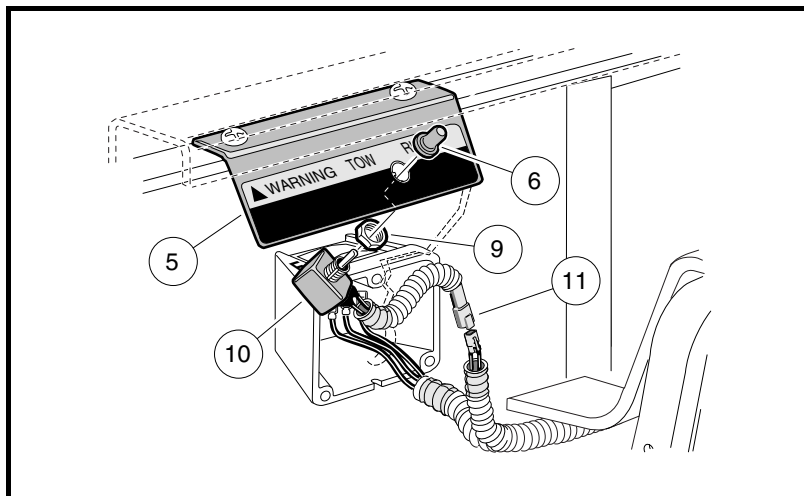

Figure 12-15 Tow/Run Switch
2. Remove Tow/Run switch boot/hex nut (6) (**Figure 12-15, Page 12-19**).
3. Remove nut (9) and Tow/Run switch (10) from bracket (5) (**Figure 12-15, Page 12-19**).
4. Disconnect two-pin connector (11) and remove switch (**Figure 12-15, Page 12-19**).
1. Installation is reverse of removal. Make sure groove on switch is aligned with tang on bracket. If knurled nut is present, tighten nut (9) to 23 in.lb (2.6 N-m). Tighten Tow/Run switch boot/hex nut (6) to 16 in.lb (1.8 N-m) (**Figure 12-15, Page 12-19**).